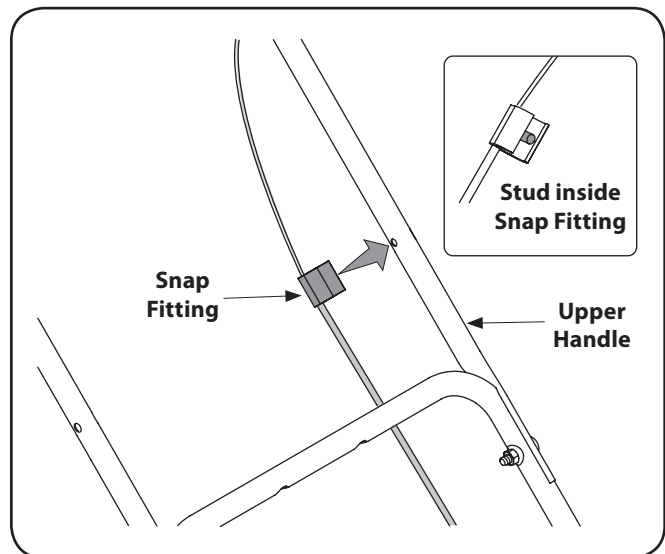
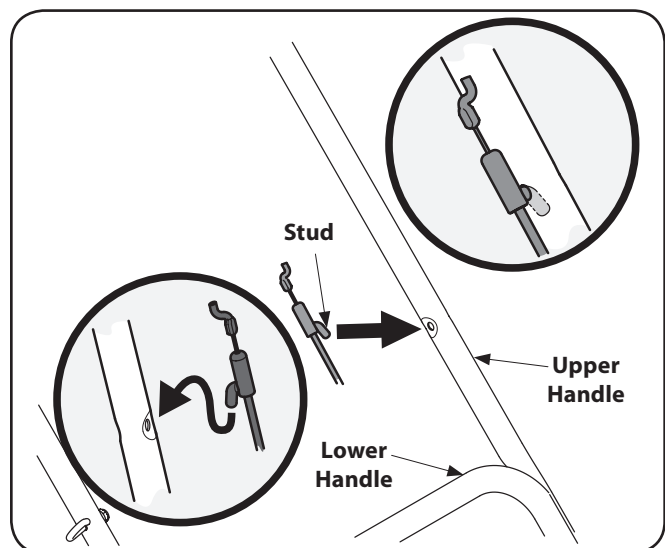

Figure 3-14
Figure 3-15
NOTE: Your mower has been supplied with one of two types of control cables - one that is secured with a snap fitting as shown in Figure 3-14 or one that is secured with a stud as shown in Figure 3-15. Make note of the cable supplied with your mower and follow the appropriate steps.
1. Press the stud found inside the snap fitting into the hole found on the left side of the upper handle, as shown in Figure 3-14.
1. Press the stud found on the cable fitting into the hole found on the left side of the upper handle, as shown in the Figure 3-15 insets.